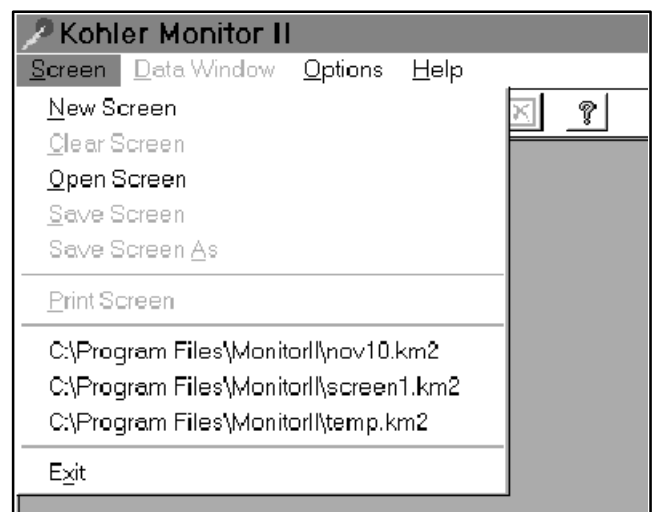

Figure 2-12 Screen Menu
- Choose Screen→New Screen to create a new screen or Screen→Open Screen to open a previously saved screen file. See Figure 2-12.